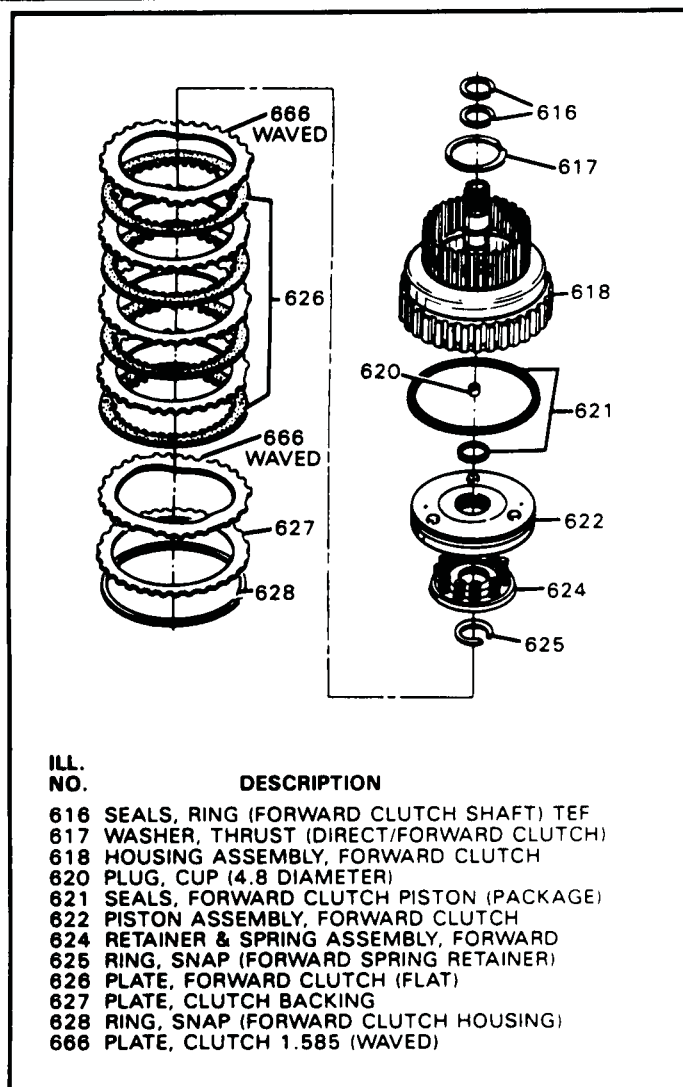

Figure 90
20. Clean and inspect all the parts for the forward clutch housing that are shown in Figure 90.
24. Install return spring and retainer assembly, as shown in Figure 90.
27. Install one wave plate into the forward clutch housing first as shown in Figures 90 and 92.
35. Install thrust washer (617) and retain with a small amount of "Trans-Jel" (See Figure 90).